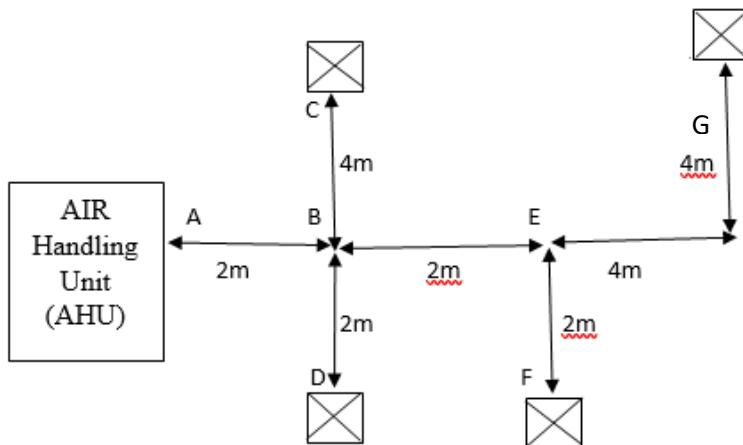

Figure B3/ Rajah B3
- CLO1 (b) According to **Figure B3** and **chart 4.33 (Appendix 4)**, determine air volume and circular duct size for duct AB, BC, BD, BE, EF and EG by using equal friction method. Given air volume at each outlet is $0.45 \text{ m}^3/\text{s}$. Assume the air velocity at duct AB is 7 m/s .